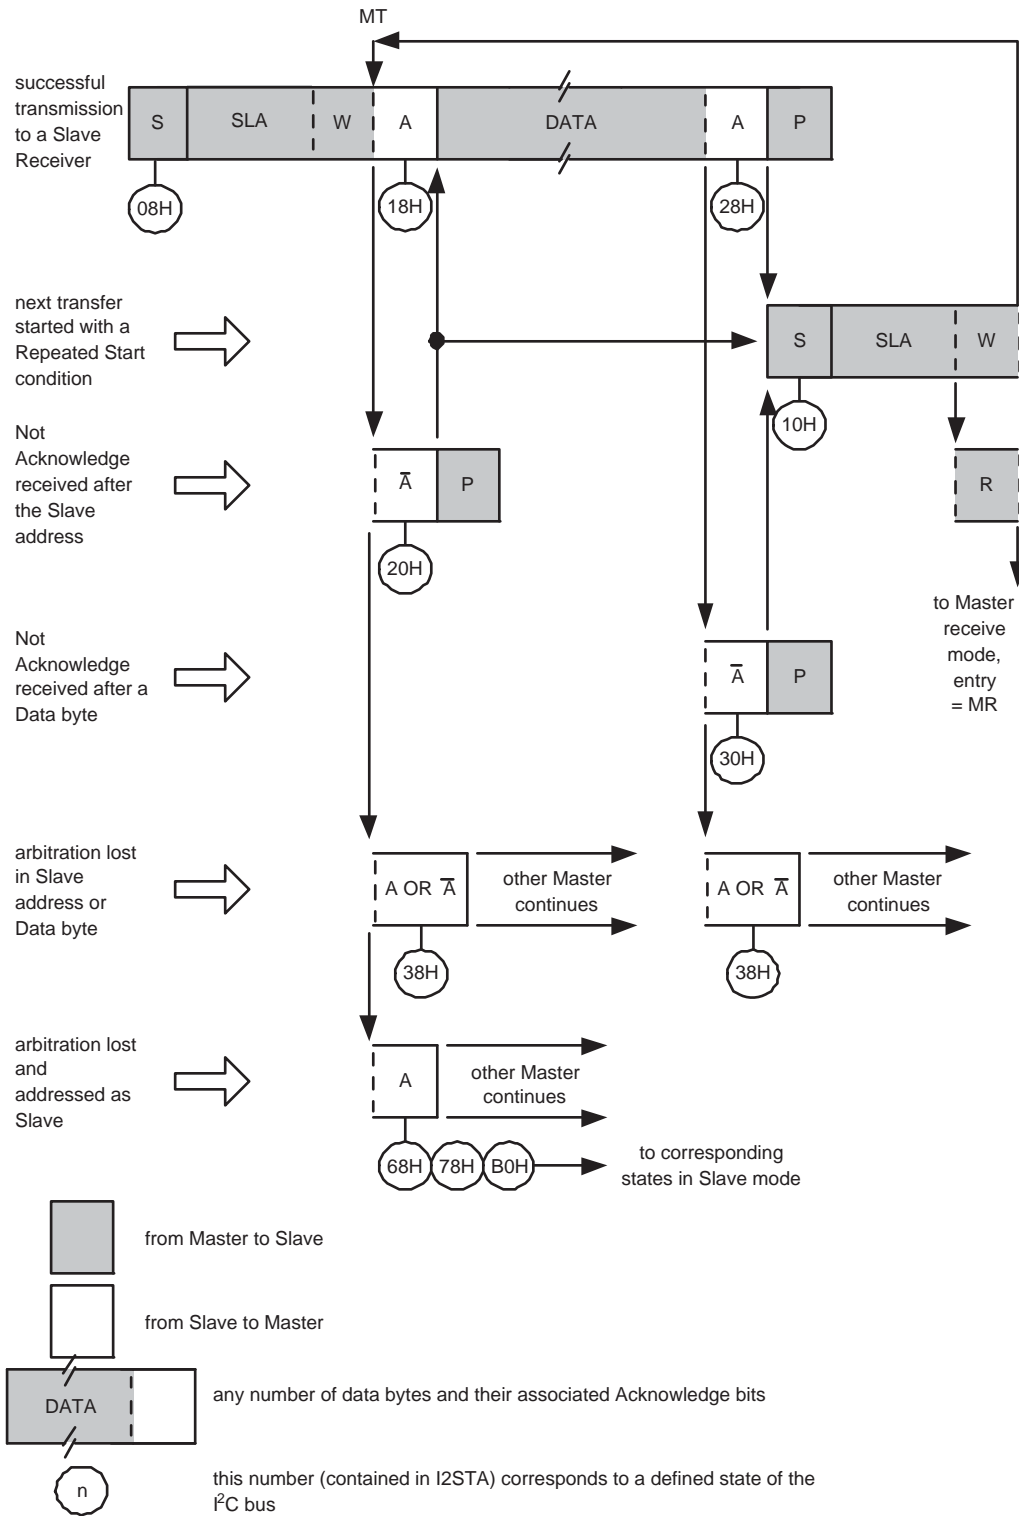
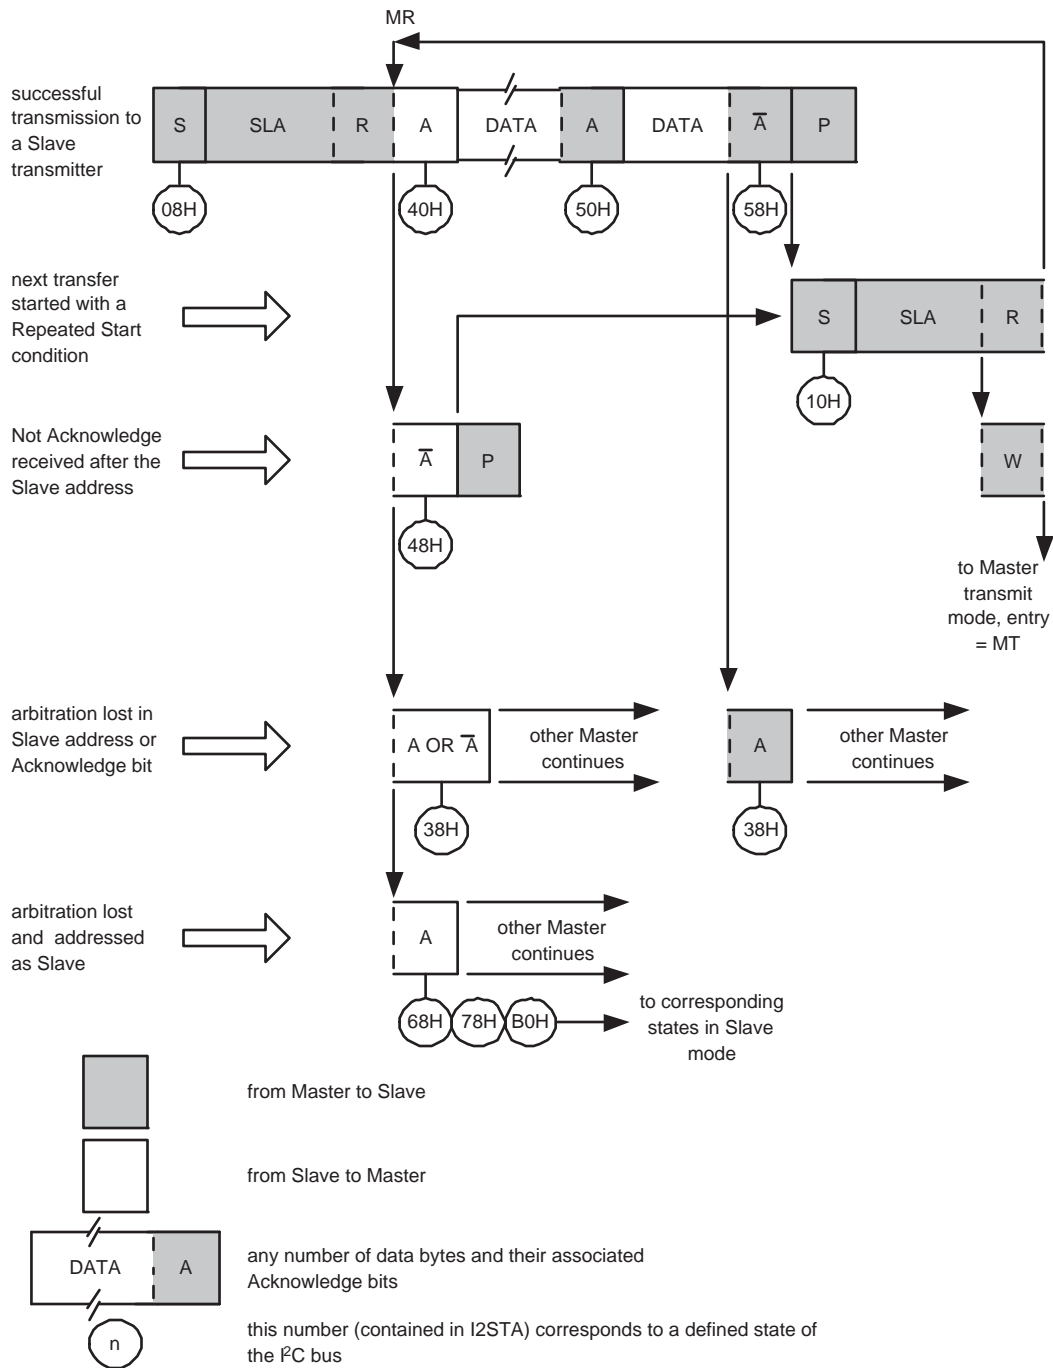
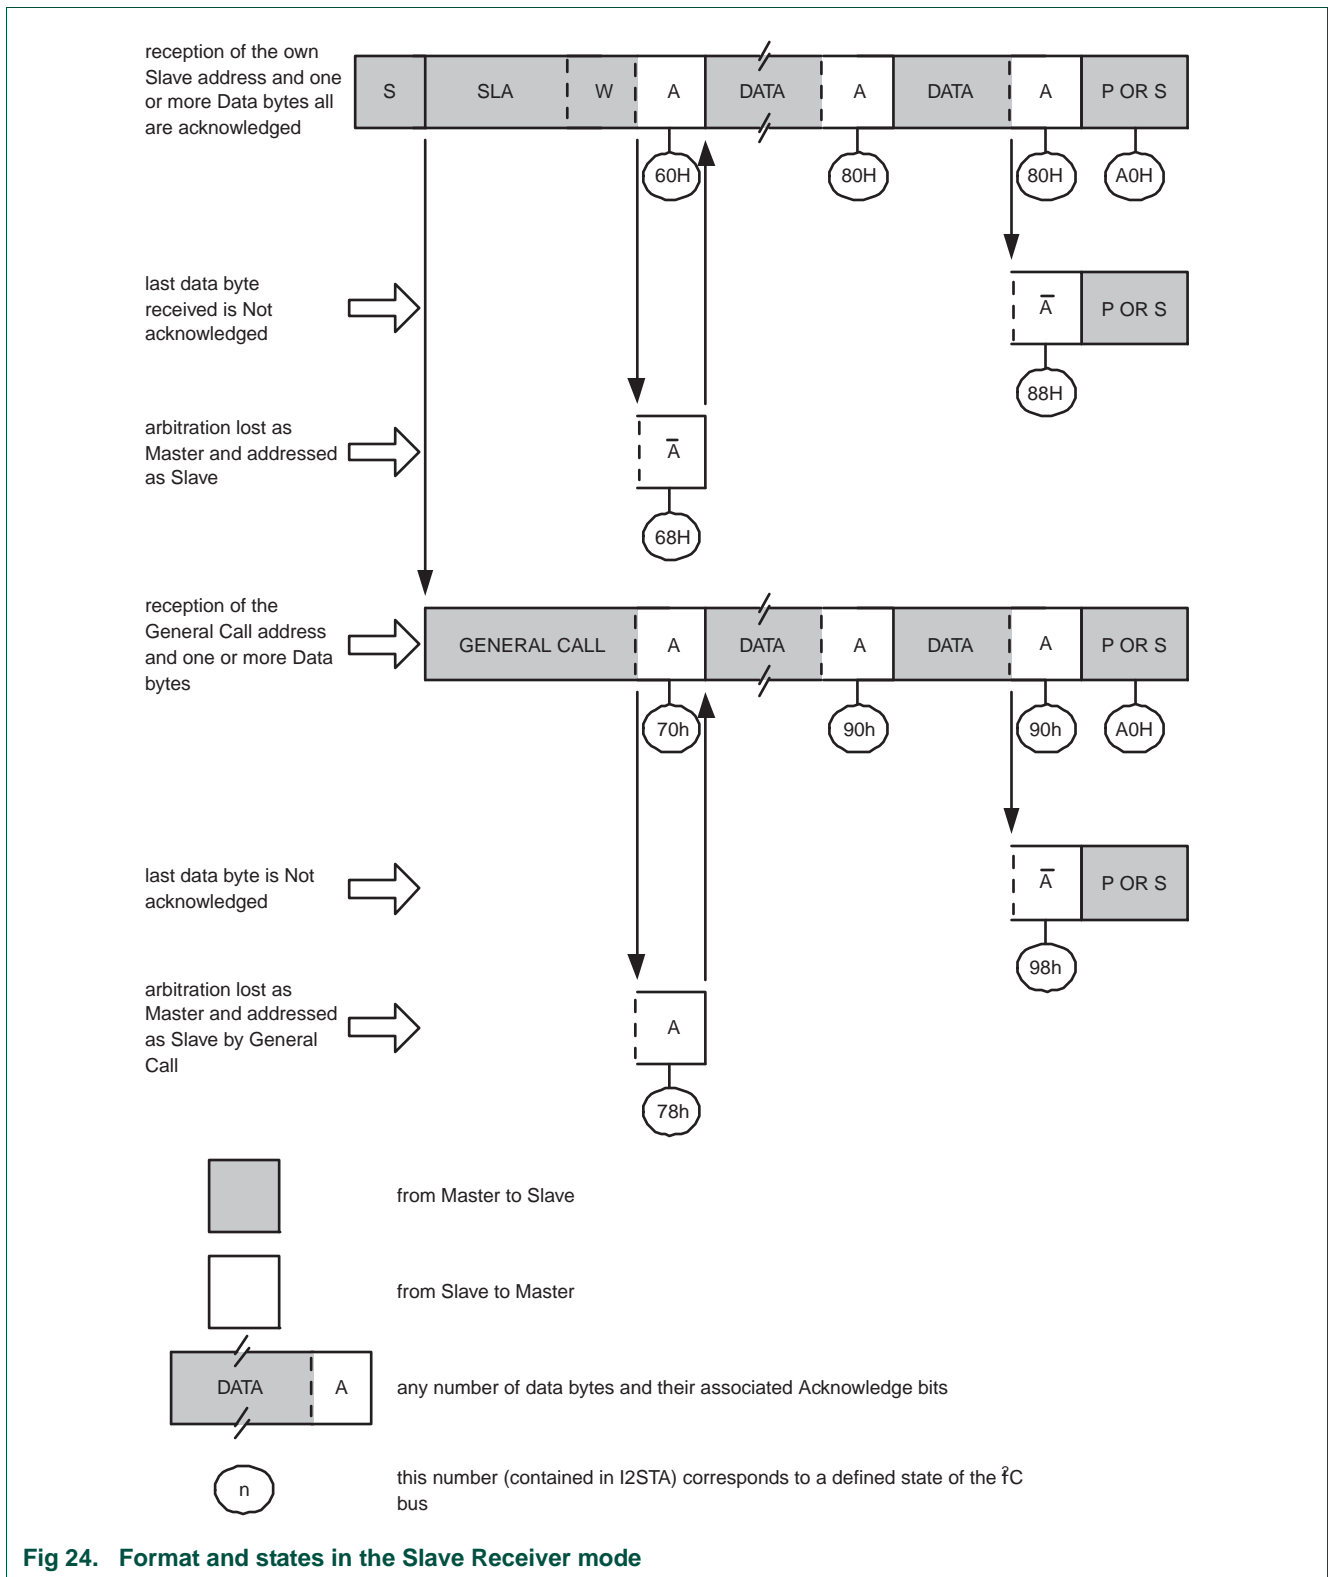
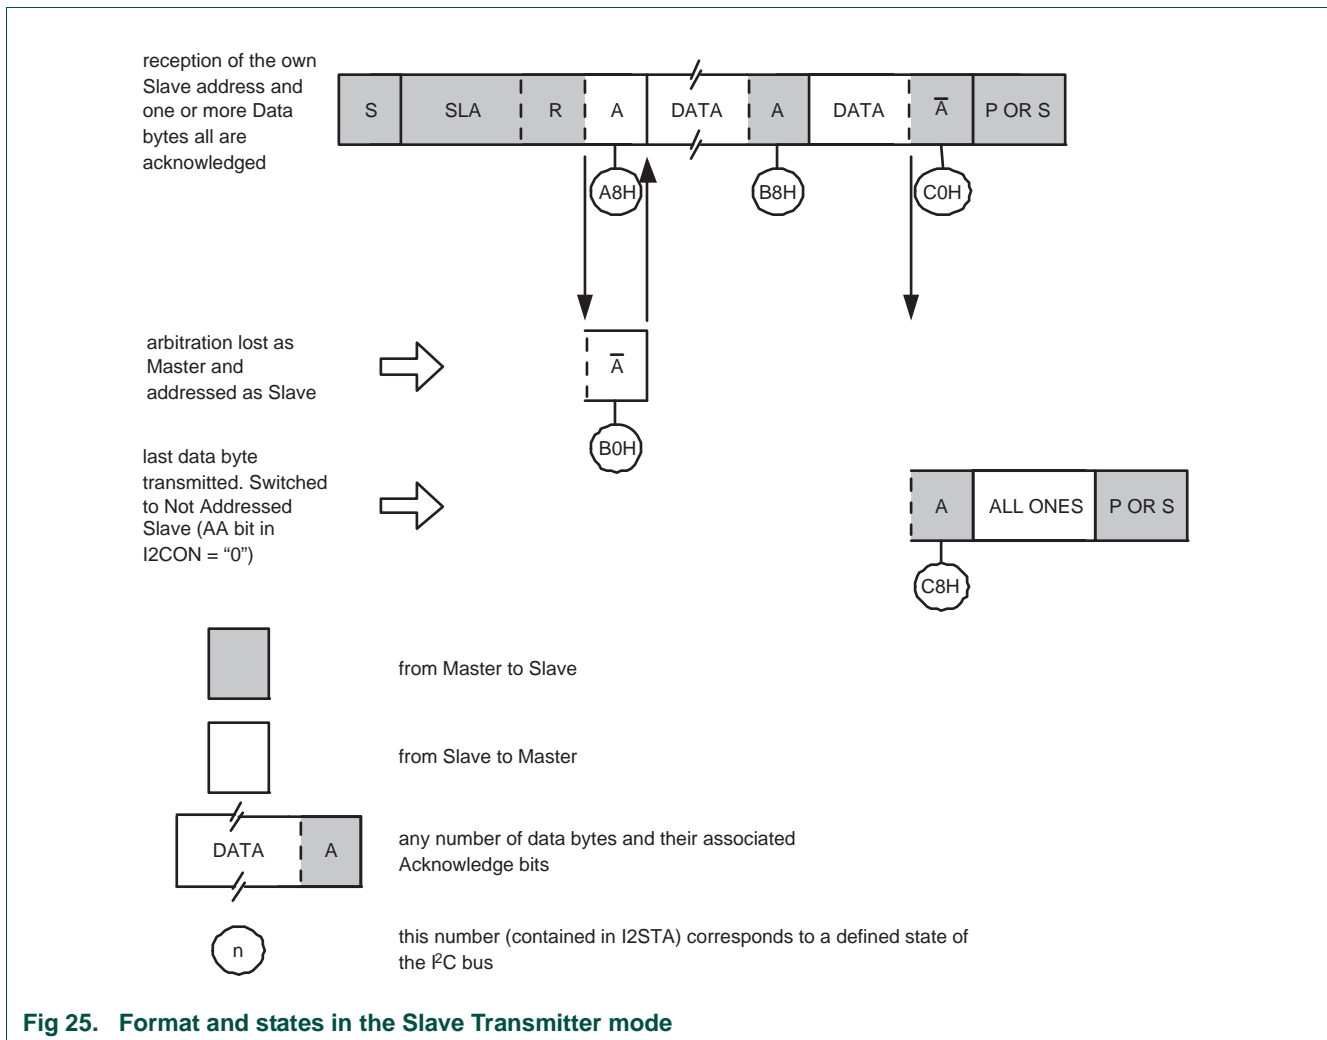

Fig 22. Format and states in the Master Transmitter mode
Fig 23. Format and states in the Master Receiver mode
Fig 24. Format and states in the Slave Receiver mode
Fig 25. Format and states in the Slave Transmitter mode
Data transfers in each mode of operation are shown in Figure 22, Figure 23, Figure 24, Figure 25, and Figure 26. Table 196 lists abbreviations used in these figures when describing the I2C operating modes.
In Figure 22 to Figure 26, circles are used to indicate when the serial interrupt flag is set. The numbers in the circles show the status code held in the STAT register. At these points, a service routine must be executed to continue or complete the serial transfer. These service routines are not critical since the serial transfer is suspended until the serial interrupt flag is cleared by software.
In the master transmitter mode, a number of data bytes are transmitted to a slave receiver (see Figure 22). Before the master transmitter mode can be entered, CON must be initialized as follows:
In the master receiver mode, a number of data bytes are received from a slave transmitter (see Figure 23). The transfer is initialized as in the master transmitter mode. When the START condition has been transmitted, the interrupt service routine must load DAT with the 7-bit slave address and the data direction bit (SLA+R). The SI bit in CON must then be cleared before the serial transfer can continue.
In the slave receiver mode, a number of data bytes are received from a master transmitter (see Figure 24). To initiate the slave receiver mode, CON register, the ADR registers, and the MASK registers must be configured.
In the slave transmitter mode, a number of data bytes are transmitted to a master receiver (see Figure 25). Data transfer is initialized as in the slave receiver mode. When ADR and CON have been initialized, the I2C block waits until it is addressed by its own slave address followed by the data direction bit which must be “1” (R) for the I2C block to operate in the slave transmitter mode. After its own slave address and the R bit have been received, the serial interrupt flag (SI) is set and a valid status code can be read from STAT. This status code is used to vector to a state service routine, and the appropriate action to be taken for each of these status codes is detailed in Table 202. The slave transmitter mode may also be entered if arbitration is lost while the I2C block is in the master mode (see state 0xB0).